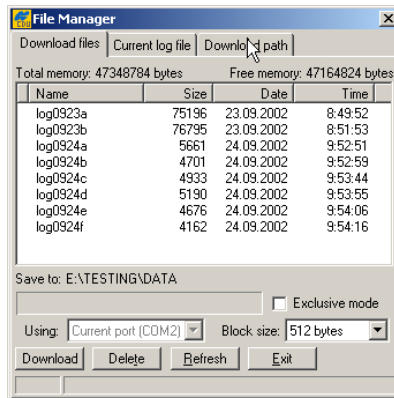

Figure 5-10. Find Files to Download
3. Click **File ► File Manager**, then click the **Download path** tab on the *File Manager* dialog box (Figure 5-10).